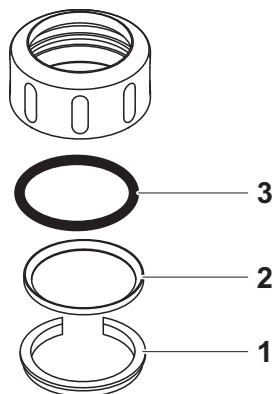

Fig. 6-1 Dismantling the coupling ring
- 1 Remove the retaining ring (pos. 1 in Fig. 6-1).
- 2 Remove the intermediate ring (pos. 2) and sealing ring (pos. 3).